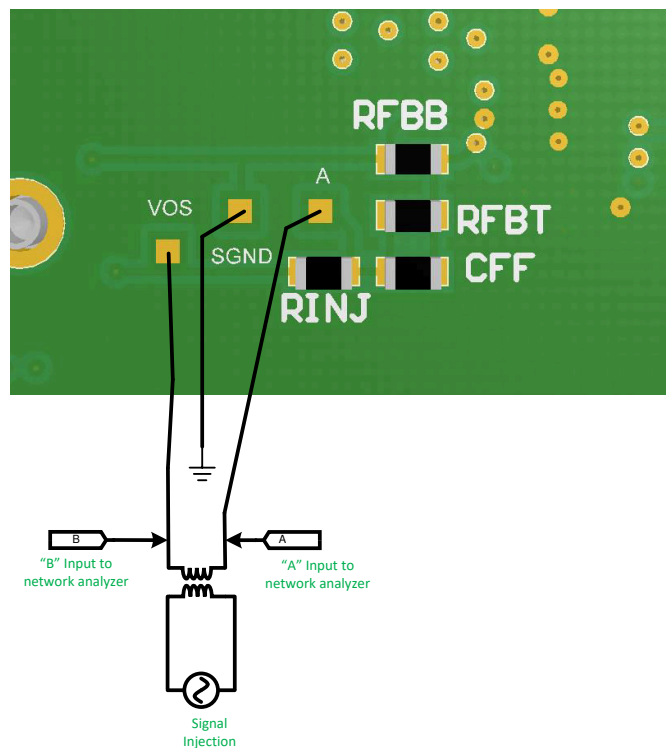

Figure 1-4. FRA Setup
- **OPEN PADS** - Connections for frequency response analyzer (on bottom of board) to take Bode plots. See Figure 1-4 for details of connections.
Loop gain measurements (Bode plots) can be made using the setup shown in Figure 1-4.